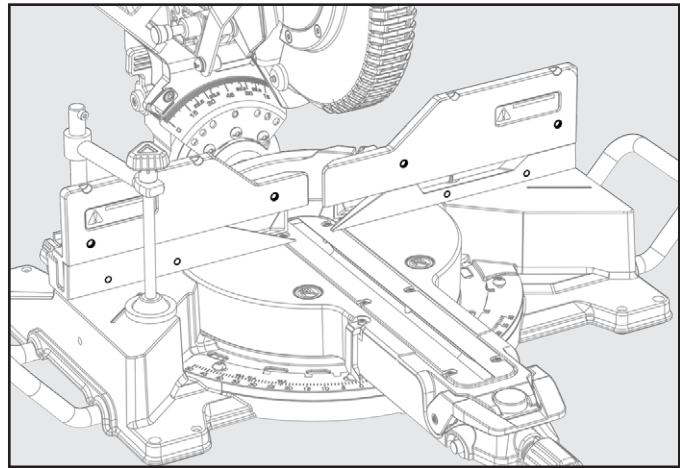

Figure 36
See Figure 36
1. Place auxiliary fence wood against miter saw fence. See Figure 36. The maximum height for this wood **MUST NOT** exceed 5.5 inch. Check to make sure auxiliary fence does make contact with saw head, check with saw head in the full DOWN and fully RETRACTED position.